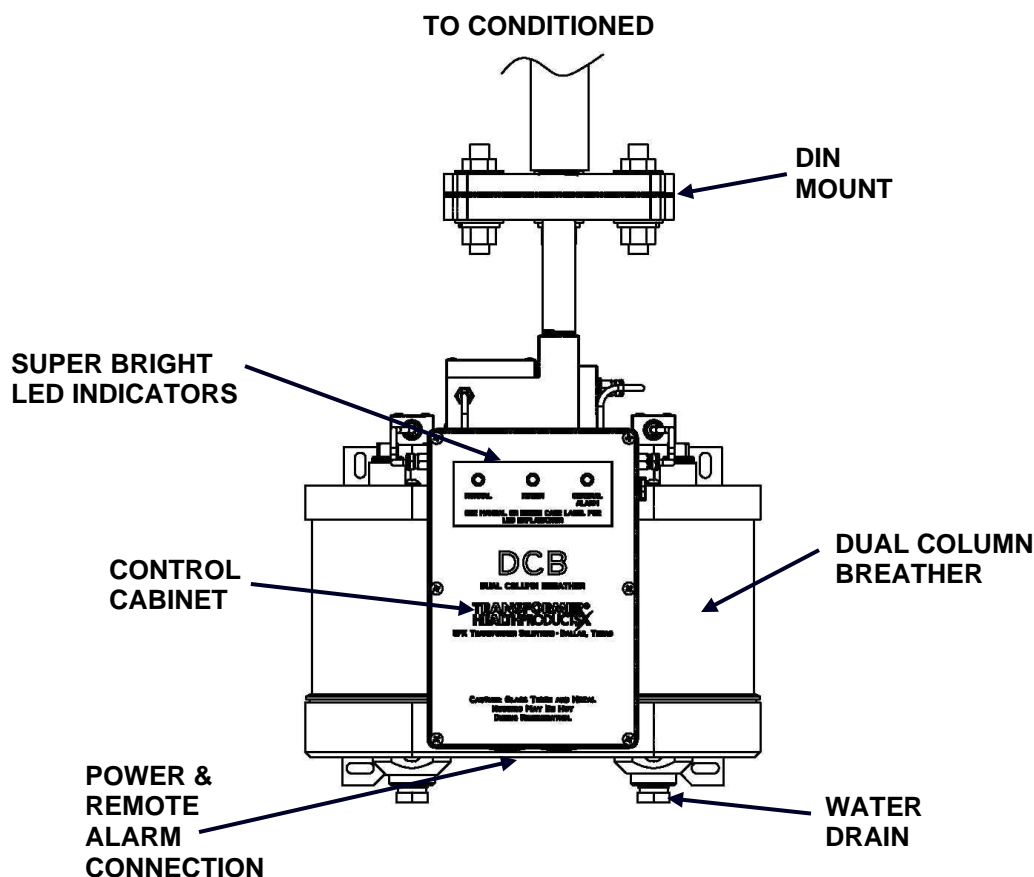

Figure 9 – Typical DCB Flange Installation
- 3) See Figure 9 below for a typical flange installation.